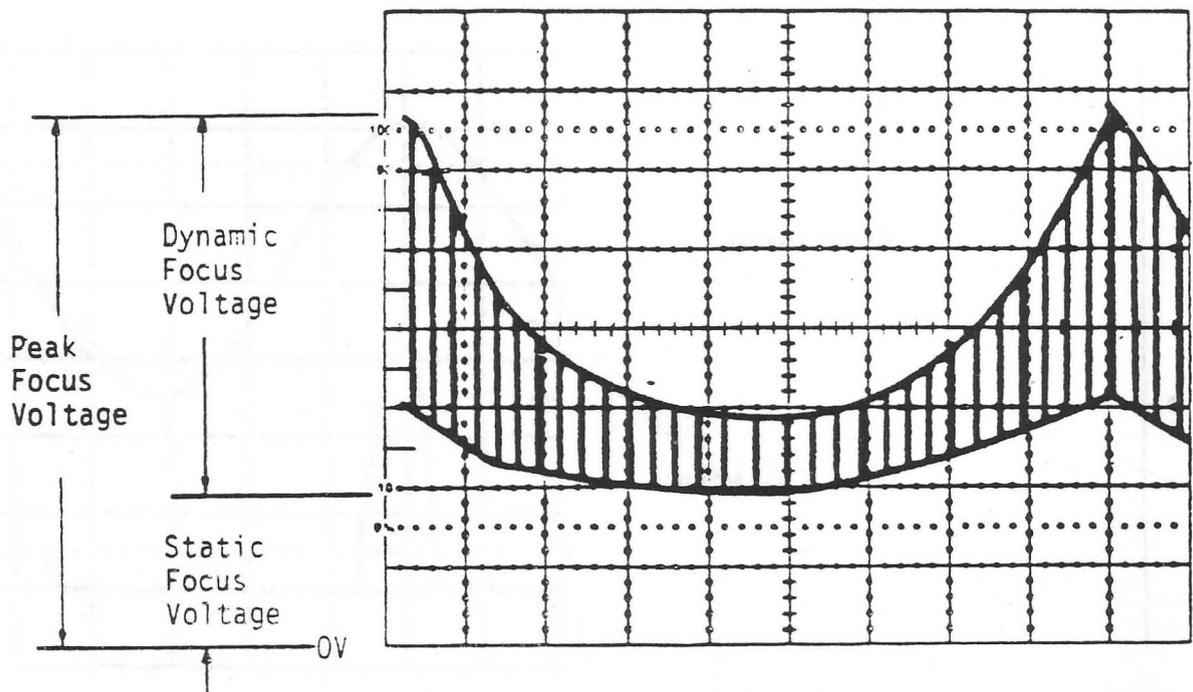

FIGURE 15
4.5.30.1 With the same procedure indicated in 4.5.29.1, measure the peak dynamic focus voltage. This voltage must be within the range specified in the model specification. The waveform will be similar to Figure 15.